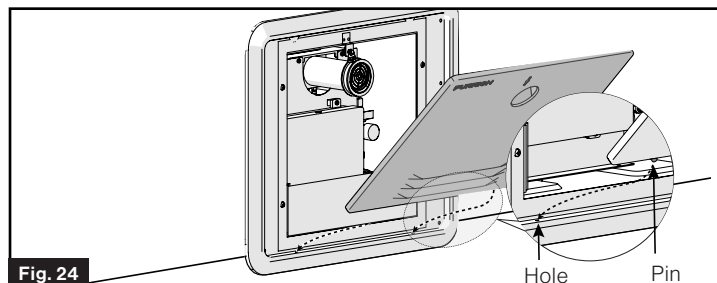

Fig. 24
4. Insert the door into the pins at the bottom of the water heater. (Fig. 24)